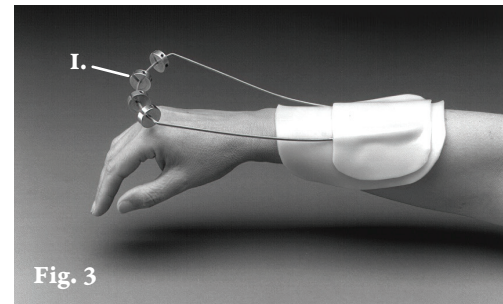

Fig. 3
- 3) Align outrigger wire by positioning its most distal section over the midpoint of the middle finger's proximal phalanx. Use a heat gun to warm the outrigger's wire base and embed it in the thermoplastic. Secure the outrigger base by bonding a layer of thermoplastic over it. Using the hex wrench, mount pulleys (I.) on the outrigger wire in alignment with the fingers. (Fig. 3)